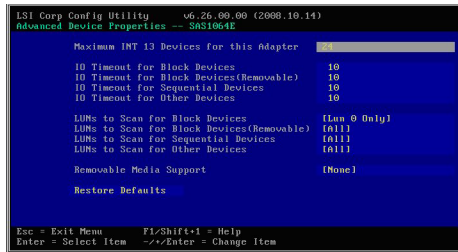

Figure 19. Advanced Device Properties screen
5. Use the arrow keys to select **Advanced Device Properties**, then press Enter. The Advanced Device Properties screen displays as shown in Figure 19 on page 46.